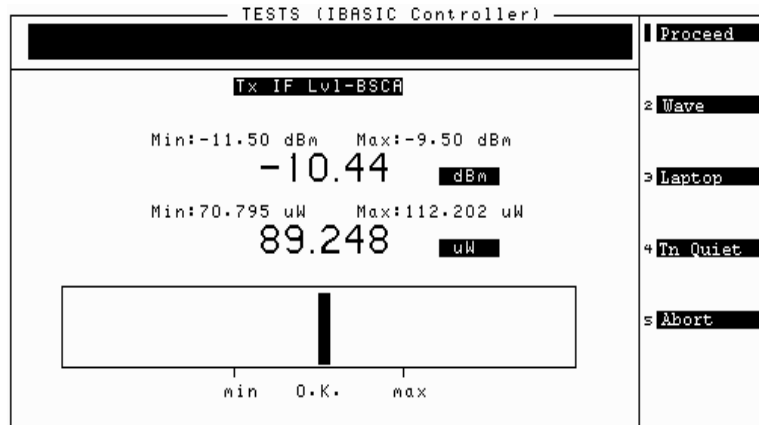

Figure 26 Power Meter Screen for TX IF Level - BSCA Measurement
1. If you set the Use Power Meter Screen When parameter to None or if you press k1 (Proceed) on the power meter screen (see figure 26 on page 90), the Test Set will show the test result table on the display when the testing is complete. If the measurement's results fall outside the specified limits, the measurement will fail. A failure is indicated by an F in the P/F column.